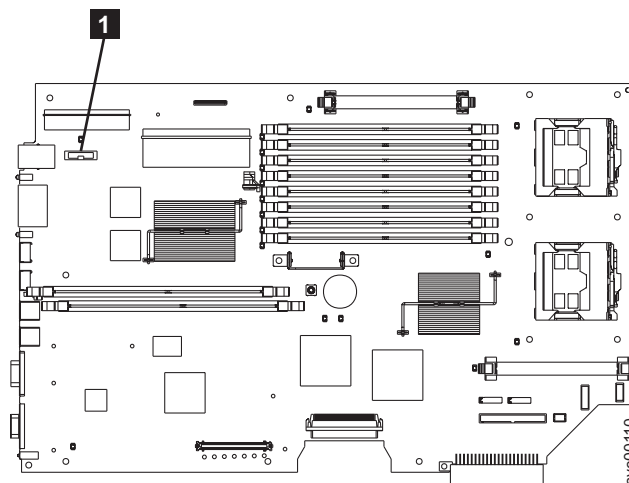

Figure 96. Battery location
4. Locate the battery **1** on the system board. See Figure 96.